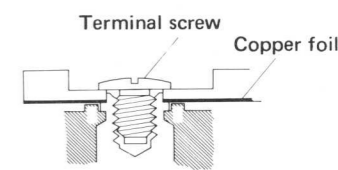

Fig. 4-16
- If the top of the tube for terminal screw is located lower than the coil board surface, scrape a little off the oblique lined portion (coil board) as shown in Fig. 4.19 to make it lower than the tube for terminal screw (so that it conforms to the correct position shown in Fig. 4.16).